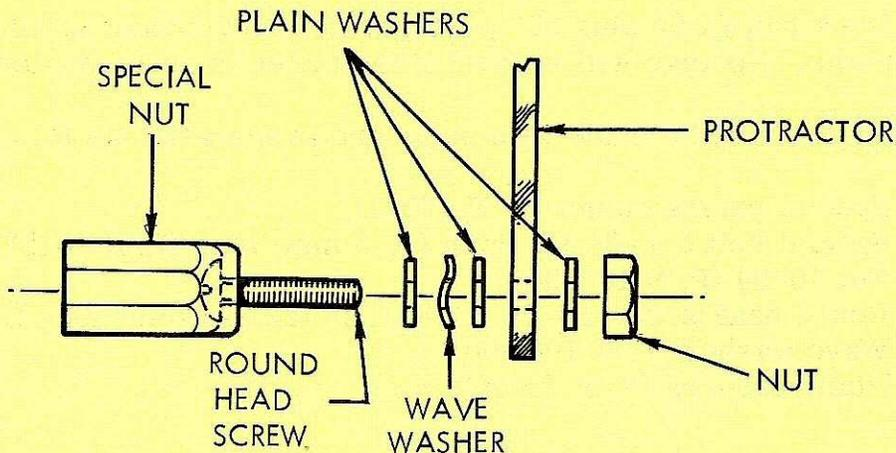

FIGURE 2
2. Install the round head screw in the special extension nut and jam the screw tight. Assemble the protractor on the nut and screw, and secure with the three plain washers, wave washer, and nut (Figure 2).